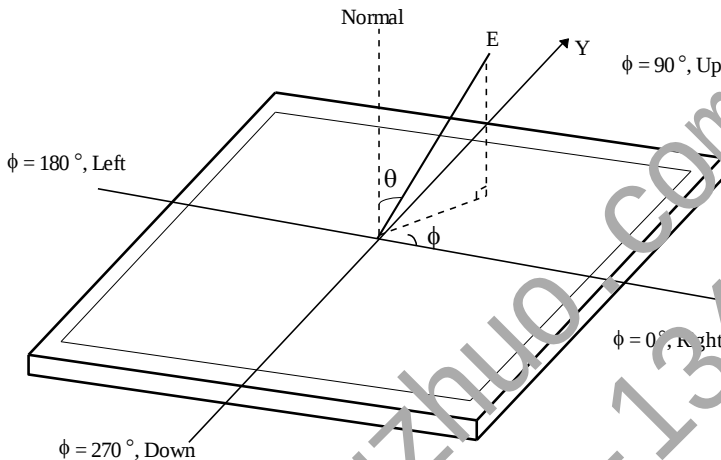

FIG 4-4 Viewing Angle
- 5) **Viewing Angle** is the angle at which the contrast ratio is greater than 10. The angles are determined for the horizontal or x axis and the vertical or y axis with respect to the z axis which is normal to the LCD surface. For more information see FIG.4-4. **(By PR880)**